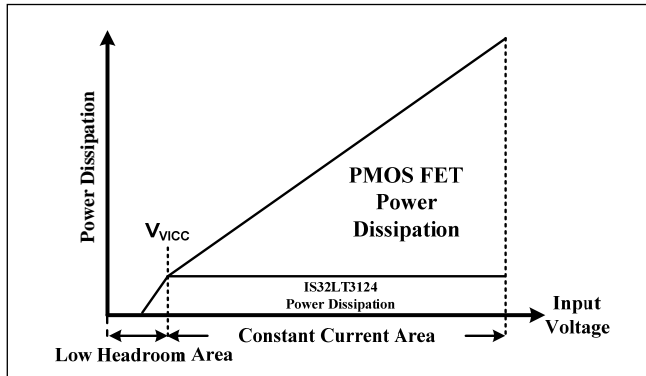

Figure 69 Power Dissipation Distribution in Series Regulator mode
Choose $1\text{k}\Omega$ value for R_1 and the DHC circuit will operate in Series Regulator mode. The integrated circuit compares the minimum headroom voltage of all four output channels against the headroom setting V_{HRSET} , which is set by the resistor R_{HR} from the HRSET and VICC pins, and dynamically drives the external power PMOS FET to maintain this minimum headroom voltage always equal to V_{HRSET} . As Figure 69 shows, the minimum headroom voltage will appear on the channel with the maximum LED string forward voltage. Therefore, the output voltage of the Series Regulator, V_{VICC} , can be calculated by the Equation (6) and (7):